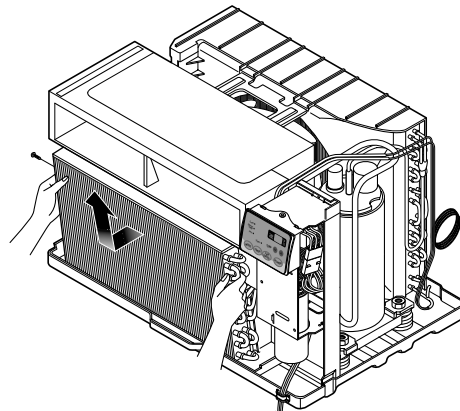

FIG. 39
6. Re-install the components by referring to notes. (See Fig. 39)